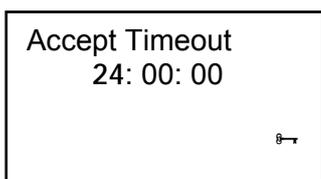

Figure 45. Display of Accept Timeout
- The first number displays the current setting for the Timeout in hours (the minutes and seconds are not currently used) as shown in figure 45. The hours can be set from 0-24 by using the '▲' and '▼' keys. Note: A setting of 0 disables resetting, while the factory default setting is 24 hours, i.e. the 'Accepted' faults will be reset to 'On' after 24 hours and the buzzer re-sounded.